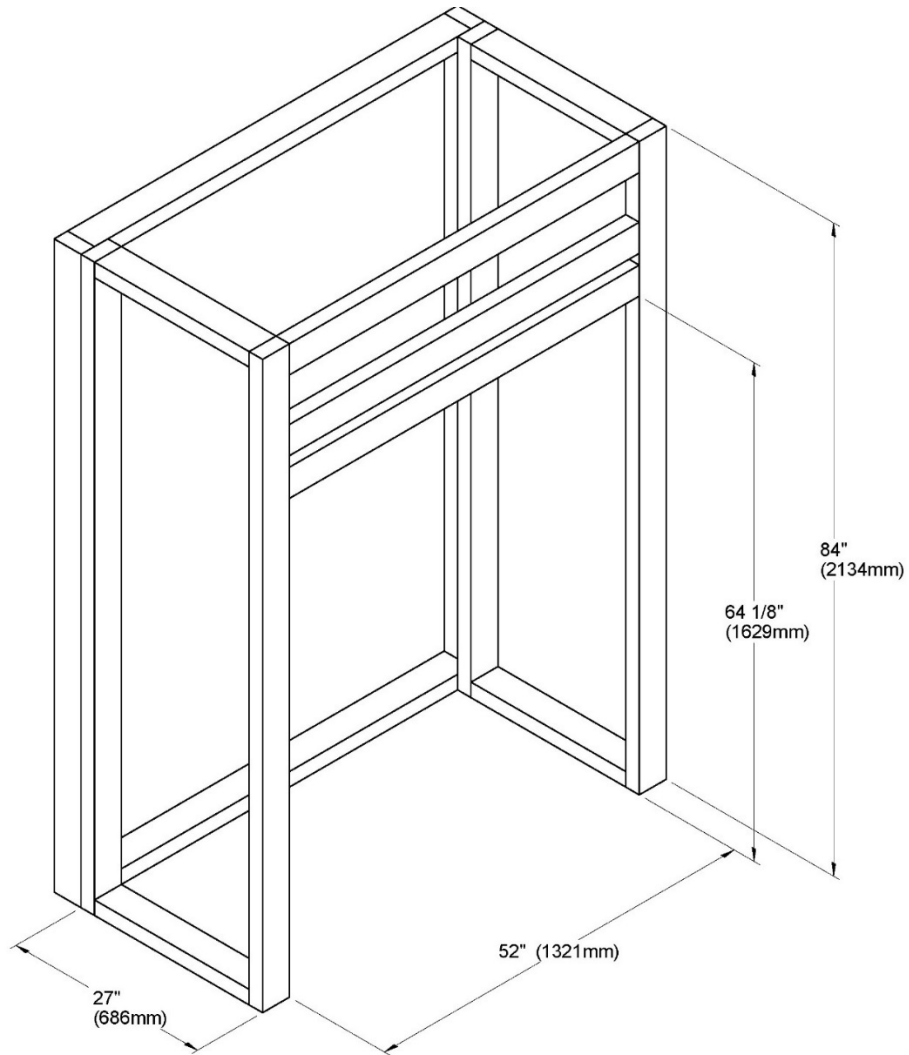

Figure 15
B. Frame the fireplace with vertical studs on each side of the fireplace running from floor to ceiling (**see Figure 15**). Position the studs back from the front edge of the fireplace, leaving a space the thickness of the facing material so that the facing can be installed flush with the fireplace facing (within limitations of **Figure 15**). Frame headers between the vertical studs only as follows: